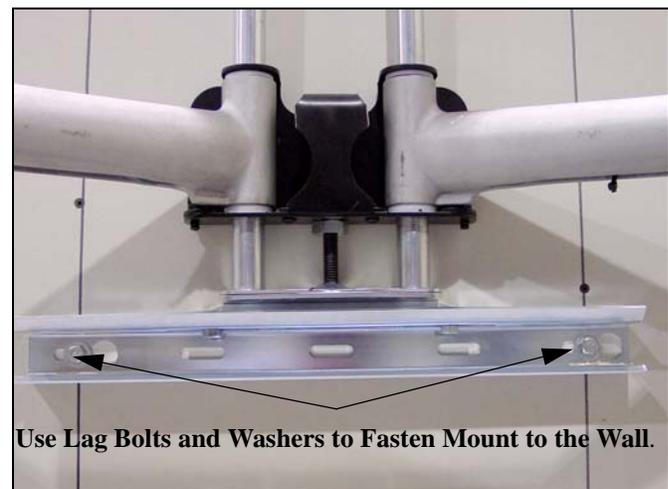

Figure 3: Mount Bottom Bracket
1. Mark the two mounting holes in the bottom mounting bracket (See Figure 3:). Make sure to align the holes parallel to the holes drilled in the top bracket.